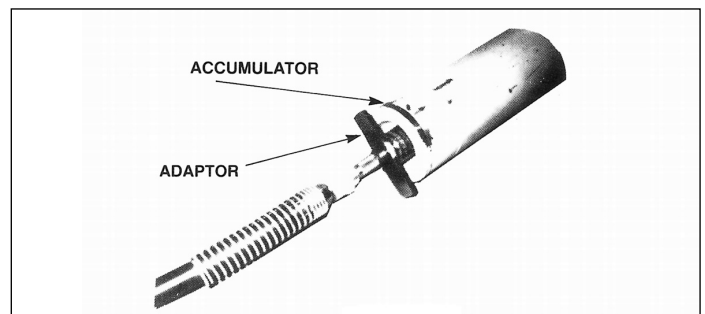

Figure 3
1. Install the charging adaptor (WAT-1) by removing the protective cap on the accumulator gas fill valve. Slide the hex of the WAT-1 onto the valve while threading the adaptor stem onto the gas fill port hand tight. (See Figure 3).